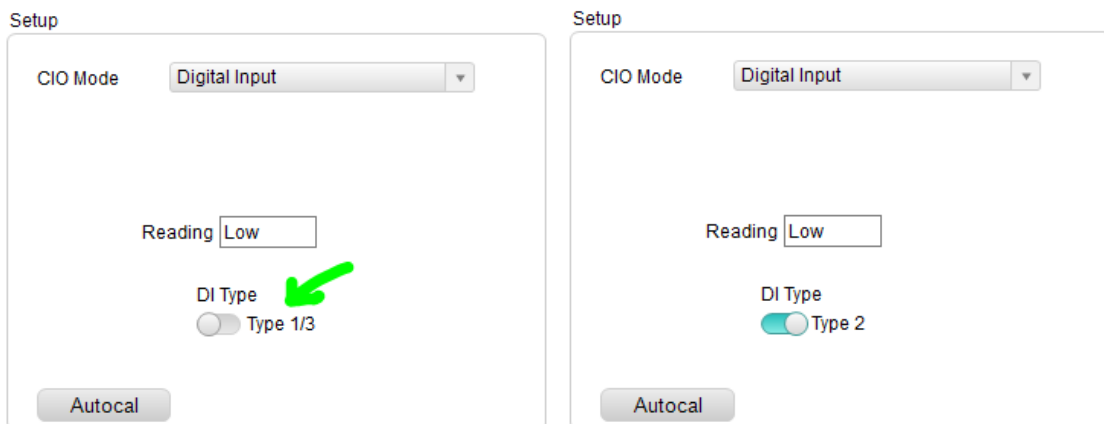

Figure 18. Digital Input type selection.
27. **Digital Input:** In digital input mode, the voltage between J12 pin 1 and pin 4 is evaluated according to IEC 61131-2 digital input standard utilizing MAX14914A. If the voltage is above the threshold, the “Reading” will show “High”. If the voltage is below the threshold, the “Reading” will show “Low”. The DI type can be selected between “Type 1/3” or “Type 2” using the switch “DI Type” (**Figure 18**).